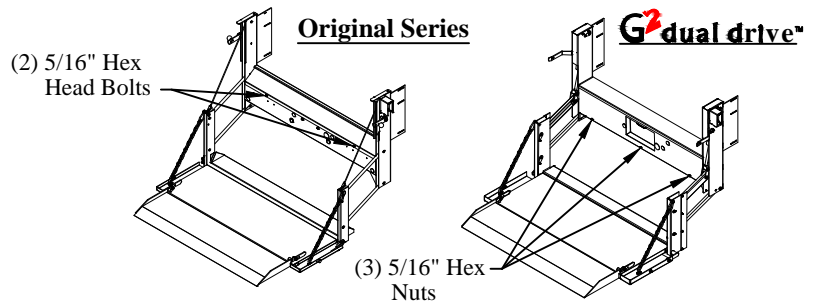

Figure 10: Box cover locations.
5. **Remove** the box cover by removing the 5/16" hex head bolts or nuts (Figure 10).